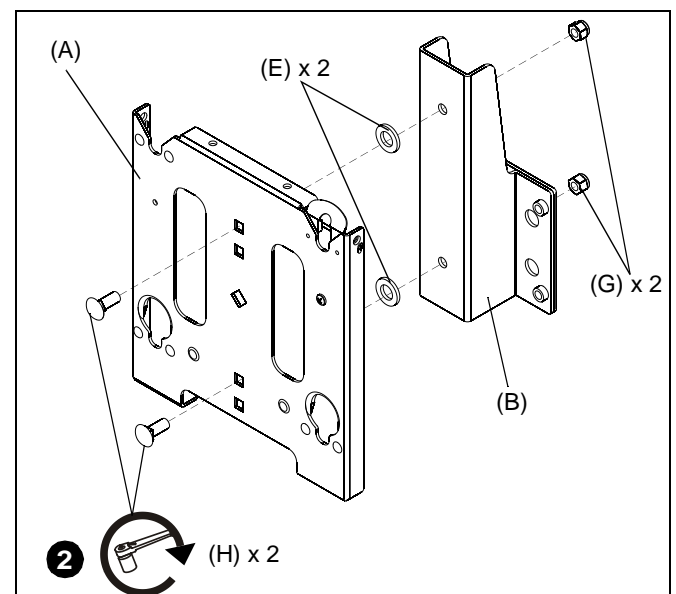

Figure 3
2. Attach second faceplate (A) to bracket (B) using two 3/8-16 x 1" roundhead carriage bolts (H), two spacers (E) and two 3/8-16 and two 3/8-16 Nylock lock nuts (G). (See Figure 3)